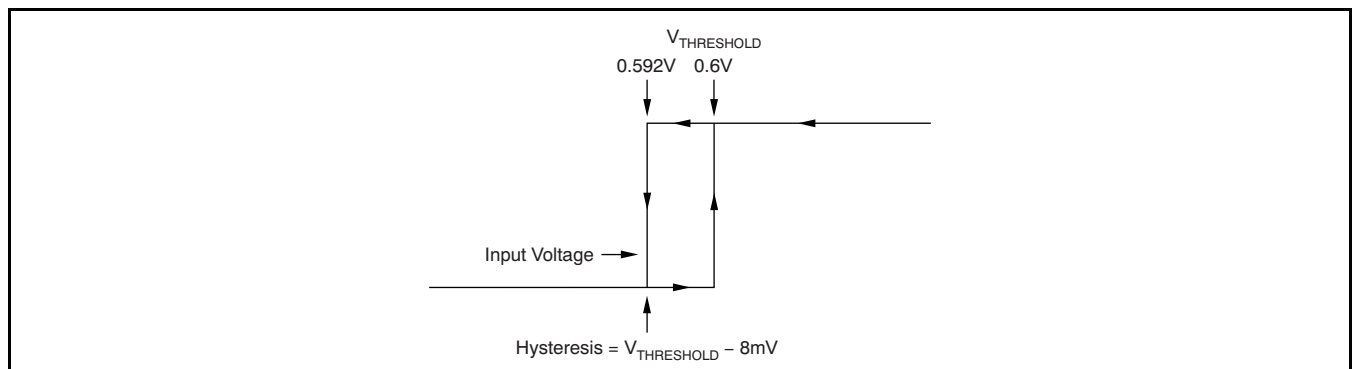

Figure 1. Typical Comparator Hysteresis
- (1) Hysteresis refers to the threshold (the threshold specification applies to a rising edge of a noninverting input) of a falling edge on the noninverting input of the comparator; refer to Figure 1.
- (2) Specified by design.
- (3)  $V_{ID}$  refers to the differential voltage at the comparator inputs.
- (4) Open-drain output can be pulled to the range of +2.7V to +18V, regardless of  $V_S$ .
- (5) The comparator response time specified is the interval between the input step function and the instant when the output crosses 1.4V.
- (6) The  $\overline{\text{RESET}}$  input has an internal 2M $\Omega$  (typical) pull-down. Leaving  $\overline{\text{RESET}}$  open results in a LOW state, with transparent comparator operation.